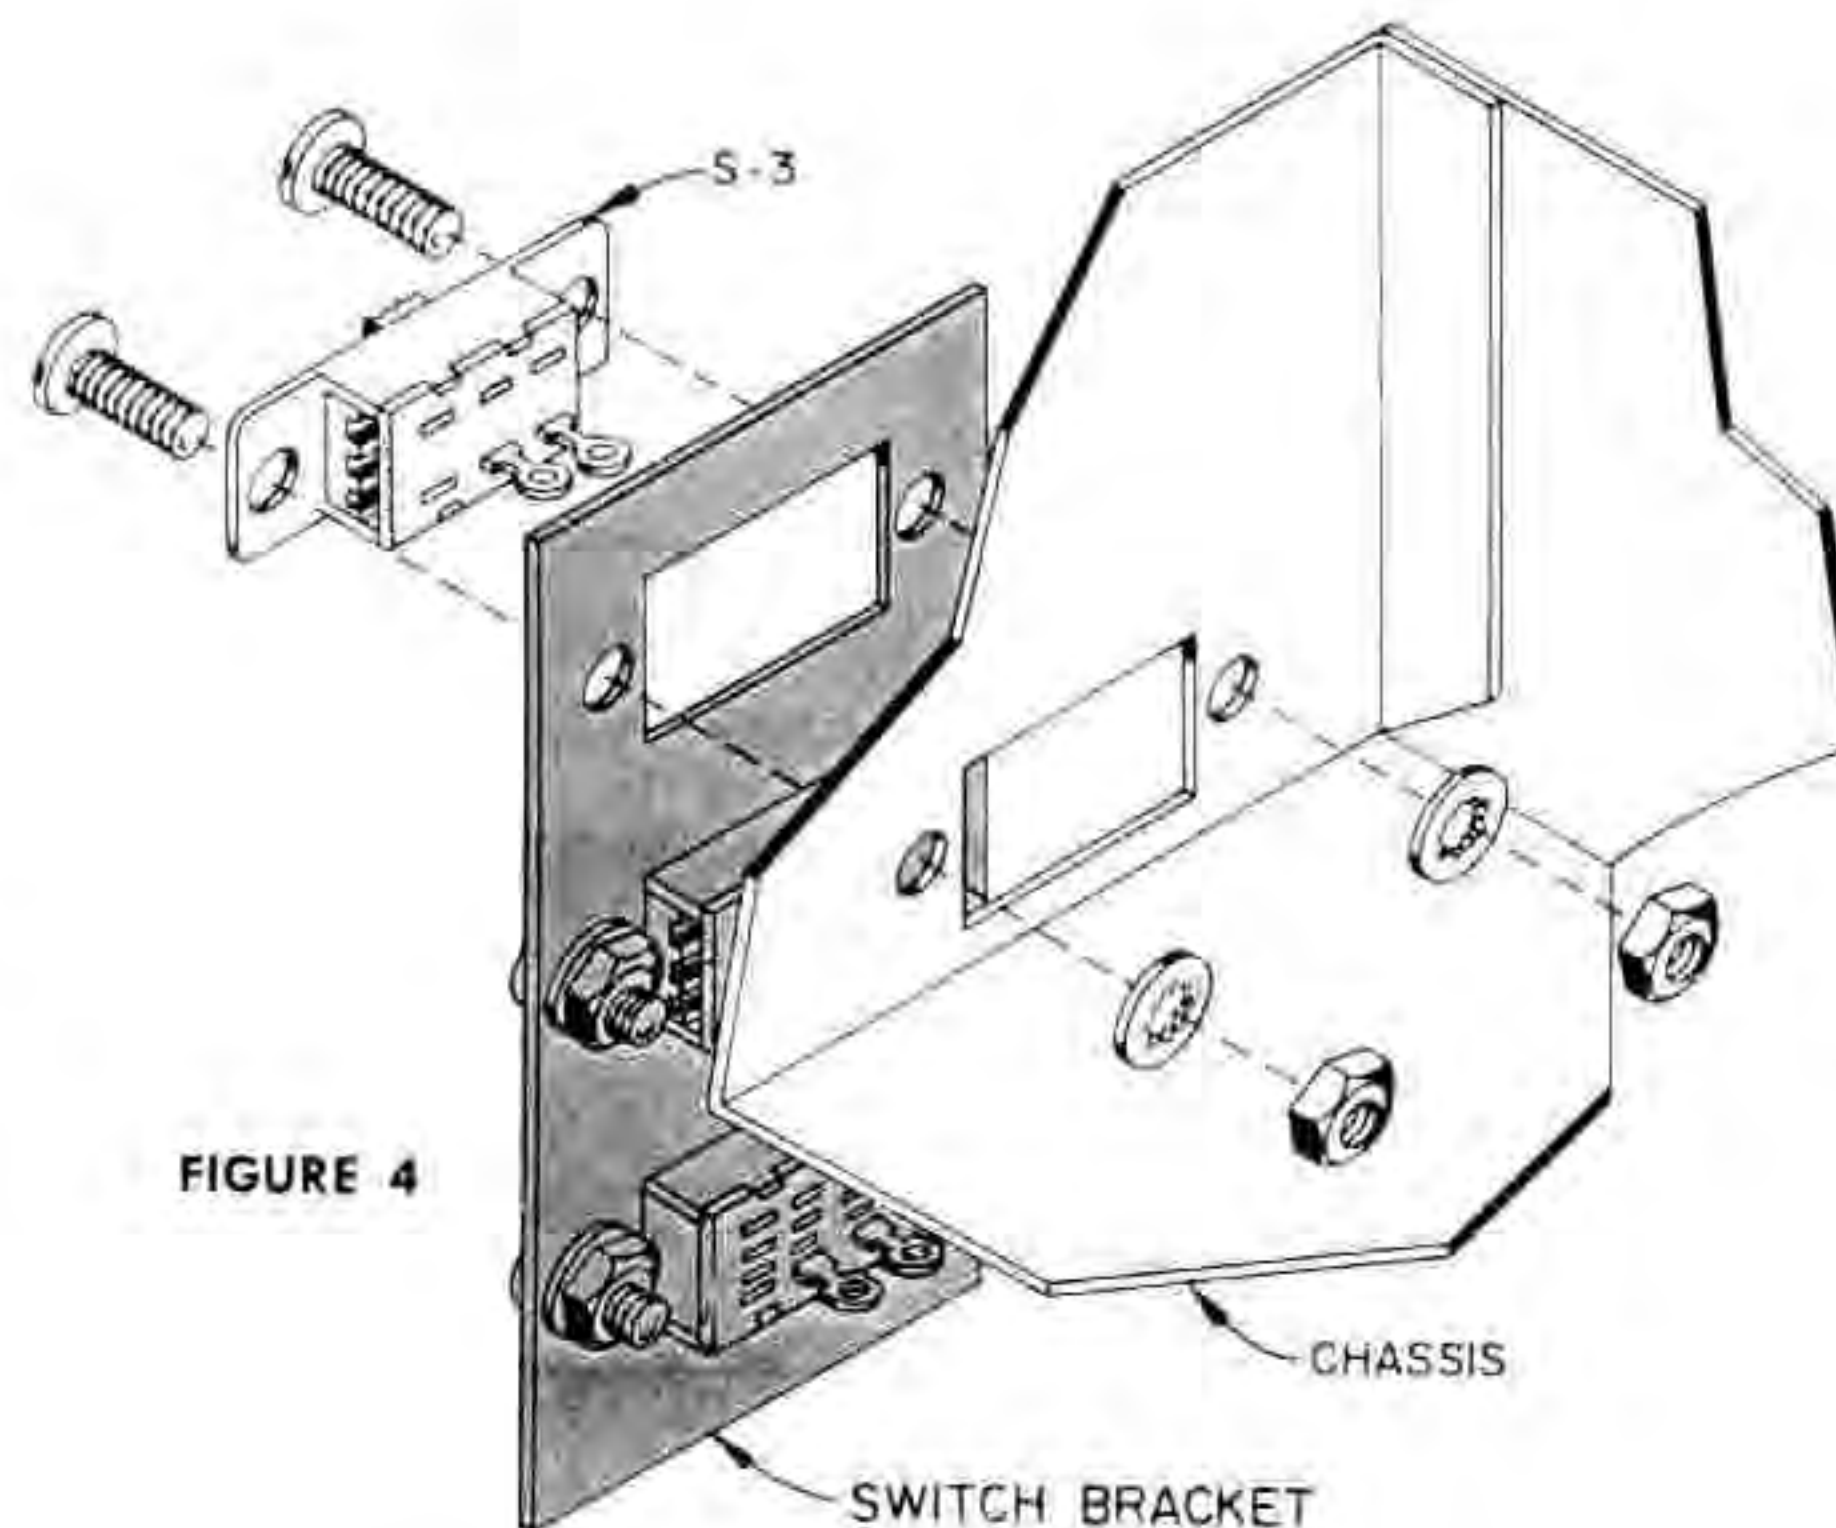

FIGURE 4
- ☑ S-3, the remaining white-button slide switch. Hardware used to mount S-3 will also be used to attach the switch bracket to the chassis. Position S-3 on the switch bracket so the end without a terminal is placed, as shown in Figure 4. Insert two 4-40 screws through S-3, through the switch bracket and through the chassis. Fasten with two lockwashers and nuts.